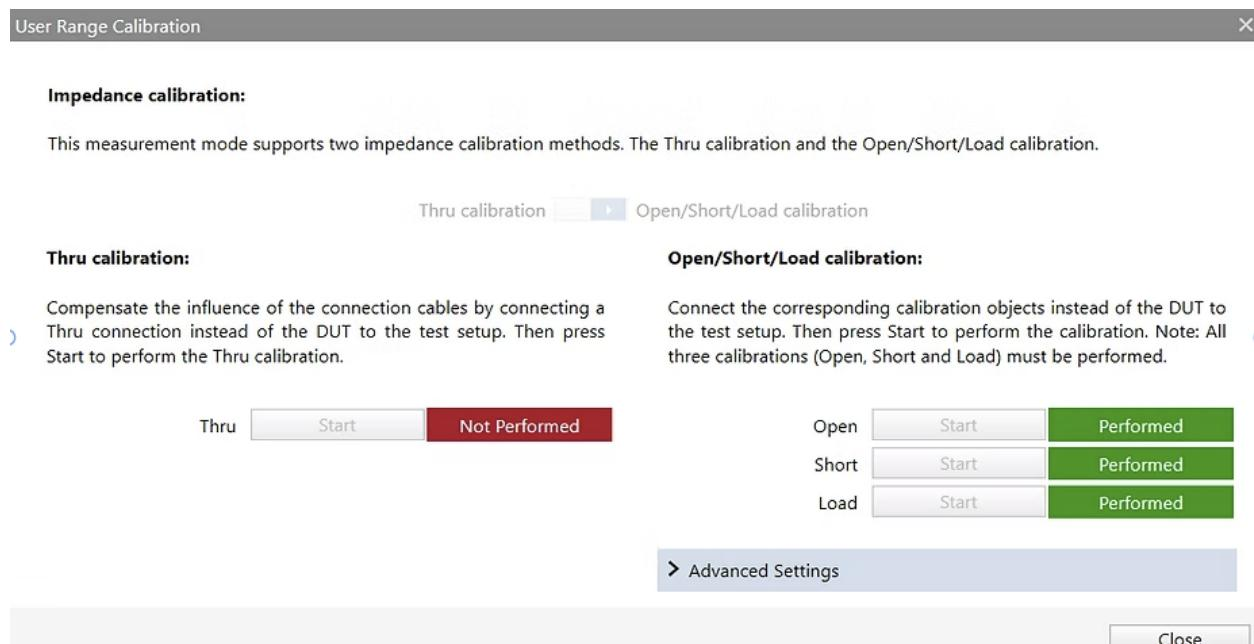

Figure 4: Completed Calibration in the Bode Analyzer Suite
Step 7: Confirm that all calibration steps were completed, as shown in Figure 4.